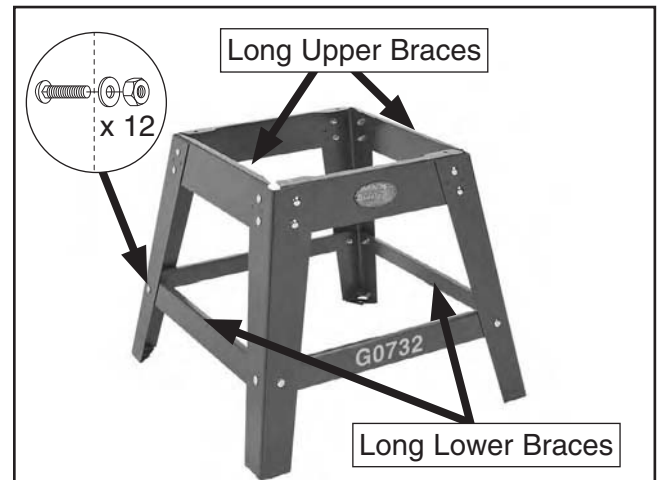

Figure 12. Stand assembly completed.
3. Attach the leg assemblies with the remaining long upper and lower braces, using (12) M8-1.25 x 16 carriage bolts, (12) 8mm flat washers, and (12) M8-1.25 hex nuts, as shown in **Figure 12**. Hand tighten the fasteners for now.